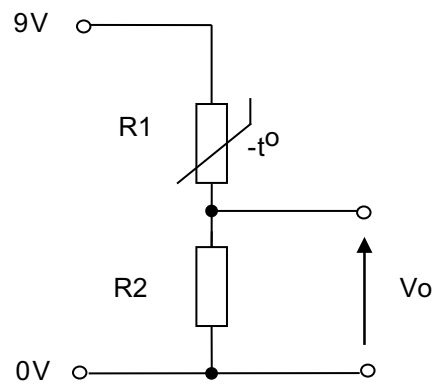

Fig. 10(a)
- 10 (a) A circuit consisting of a power supply, thermistor R1 and a resistor R2 is shown in Fig. 10(a).
- (i) With the aid of a graph with labelled axes state how the voltage V_o in Fig. 10(a) varies with temperature. [3]